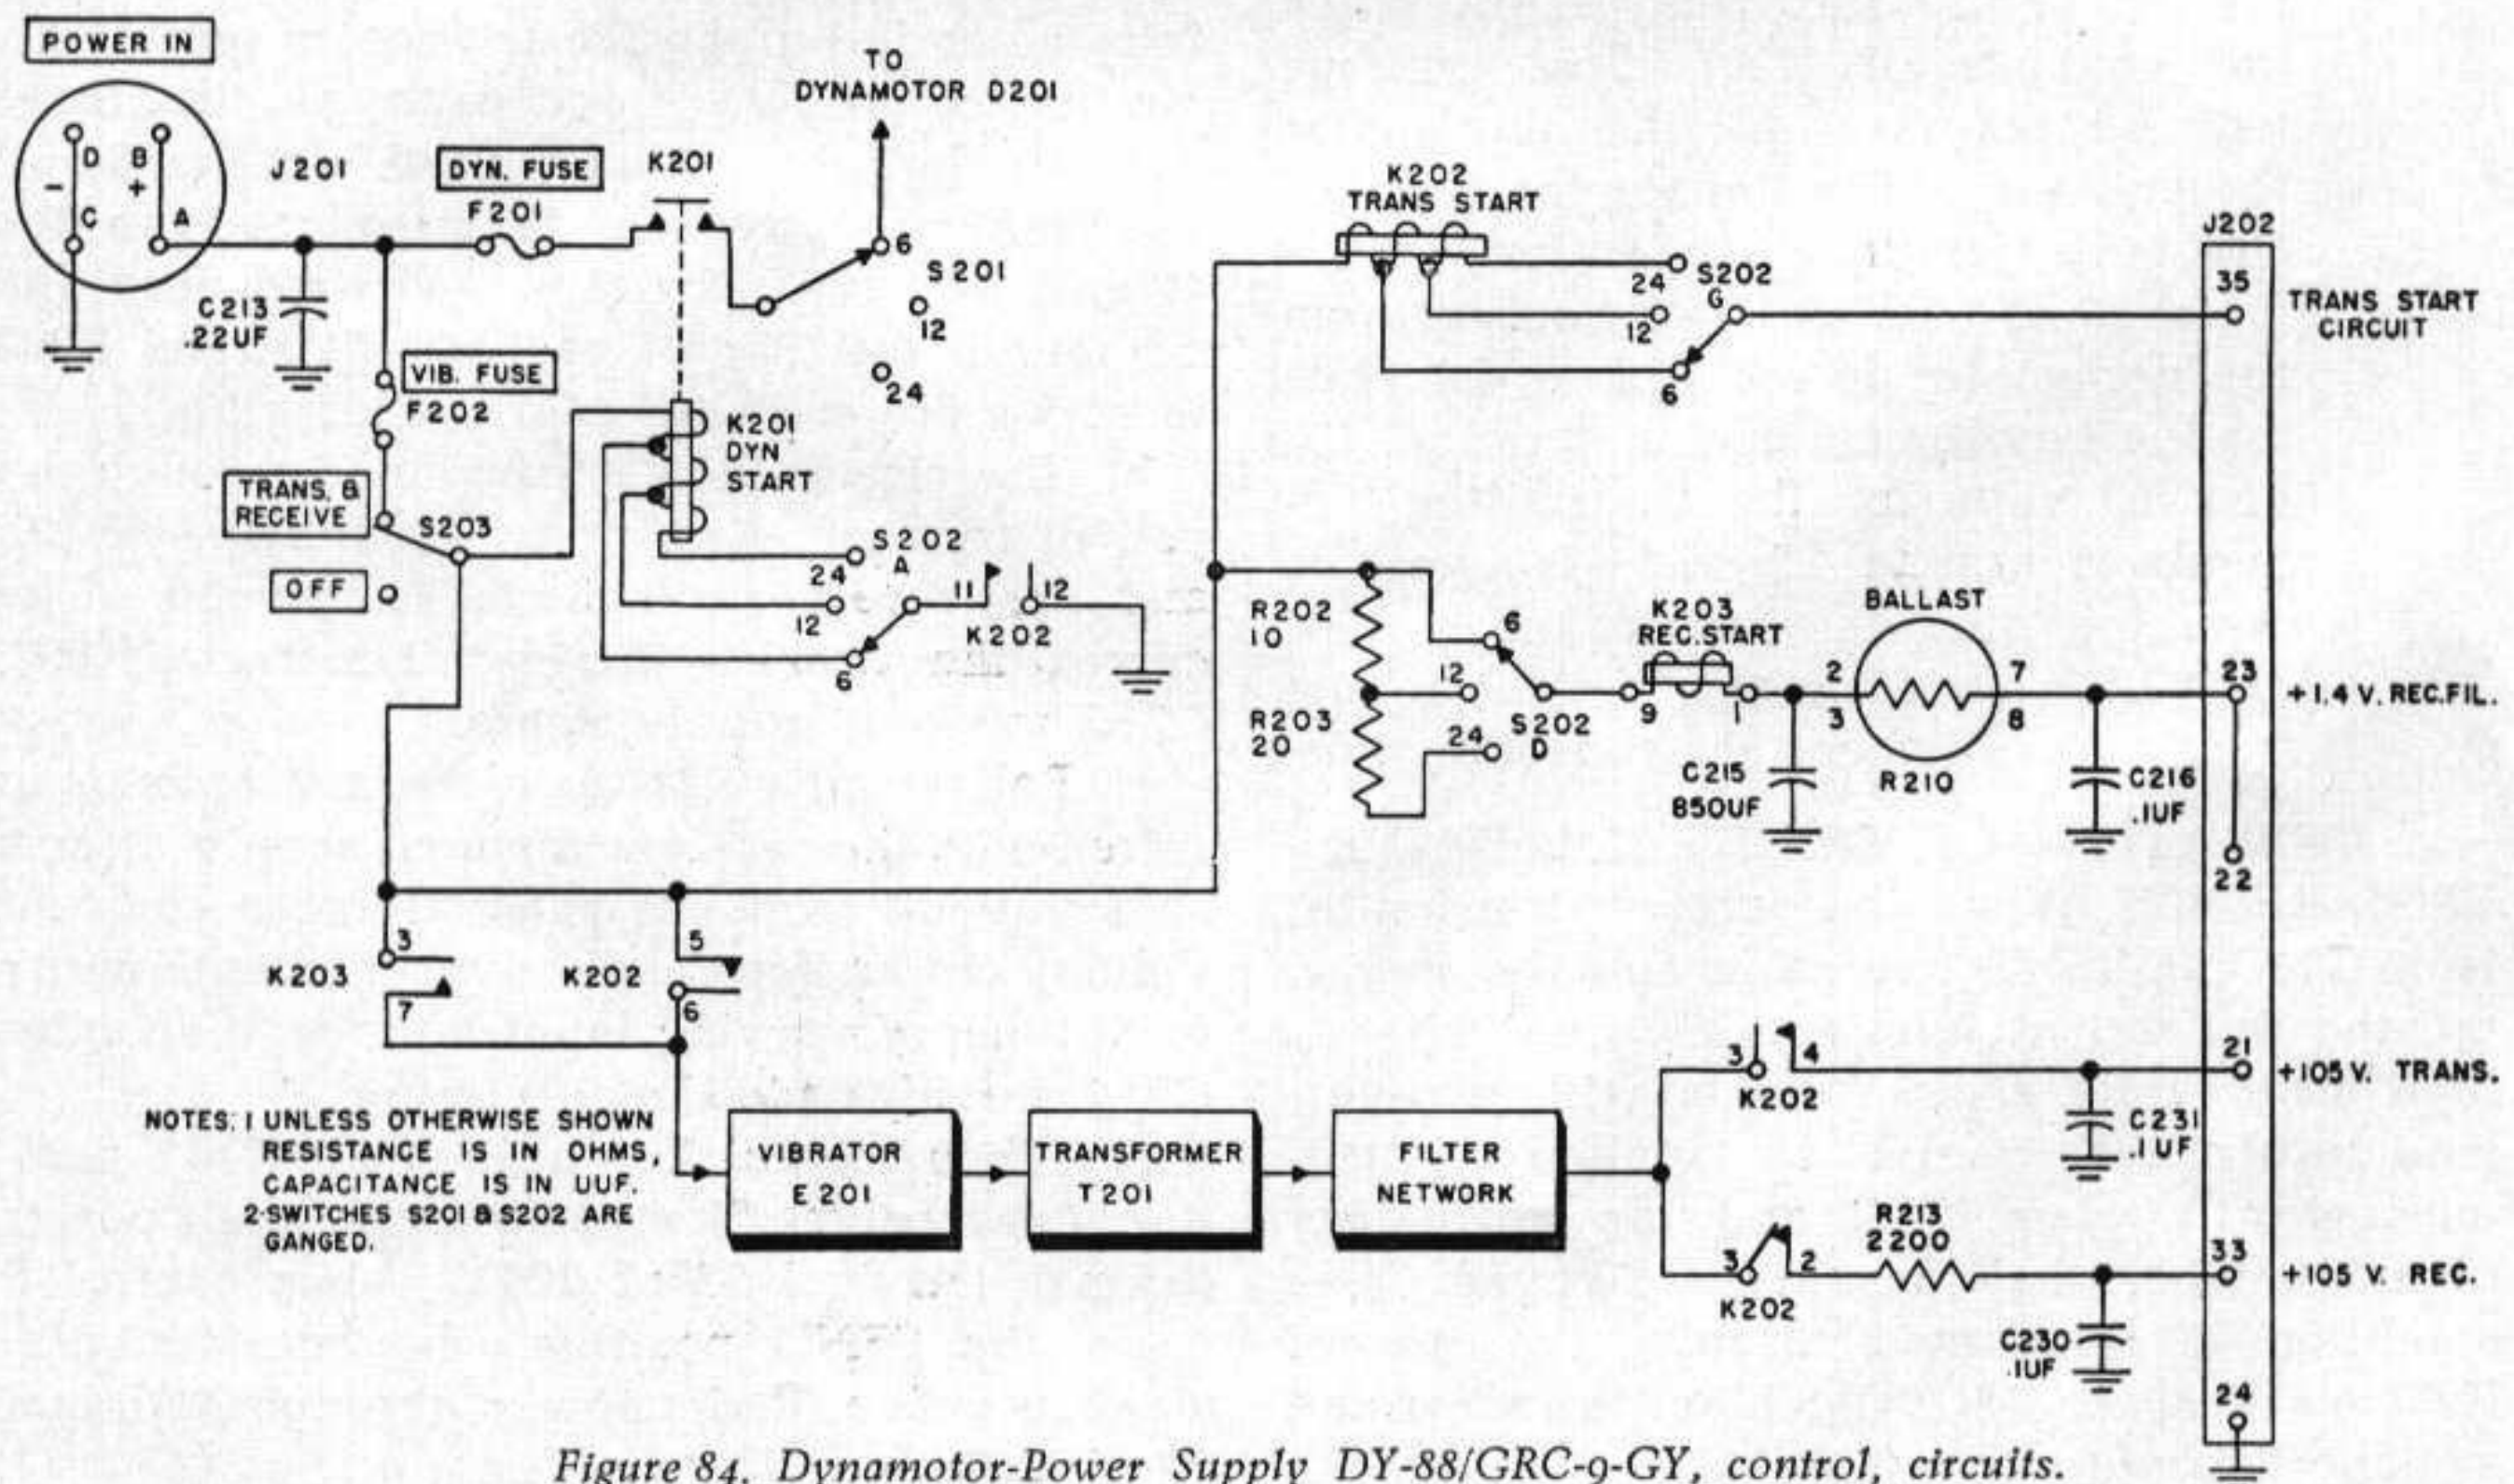
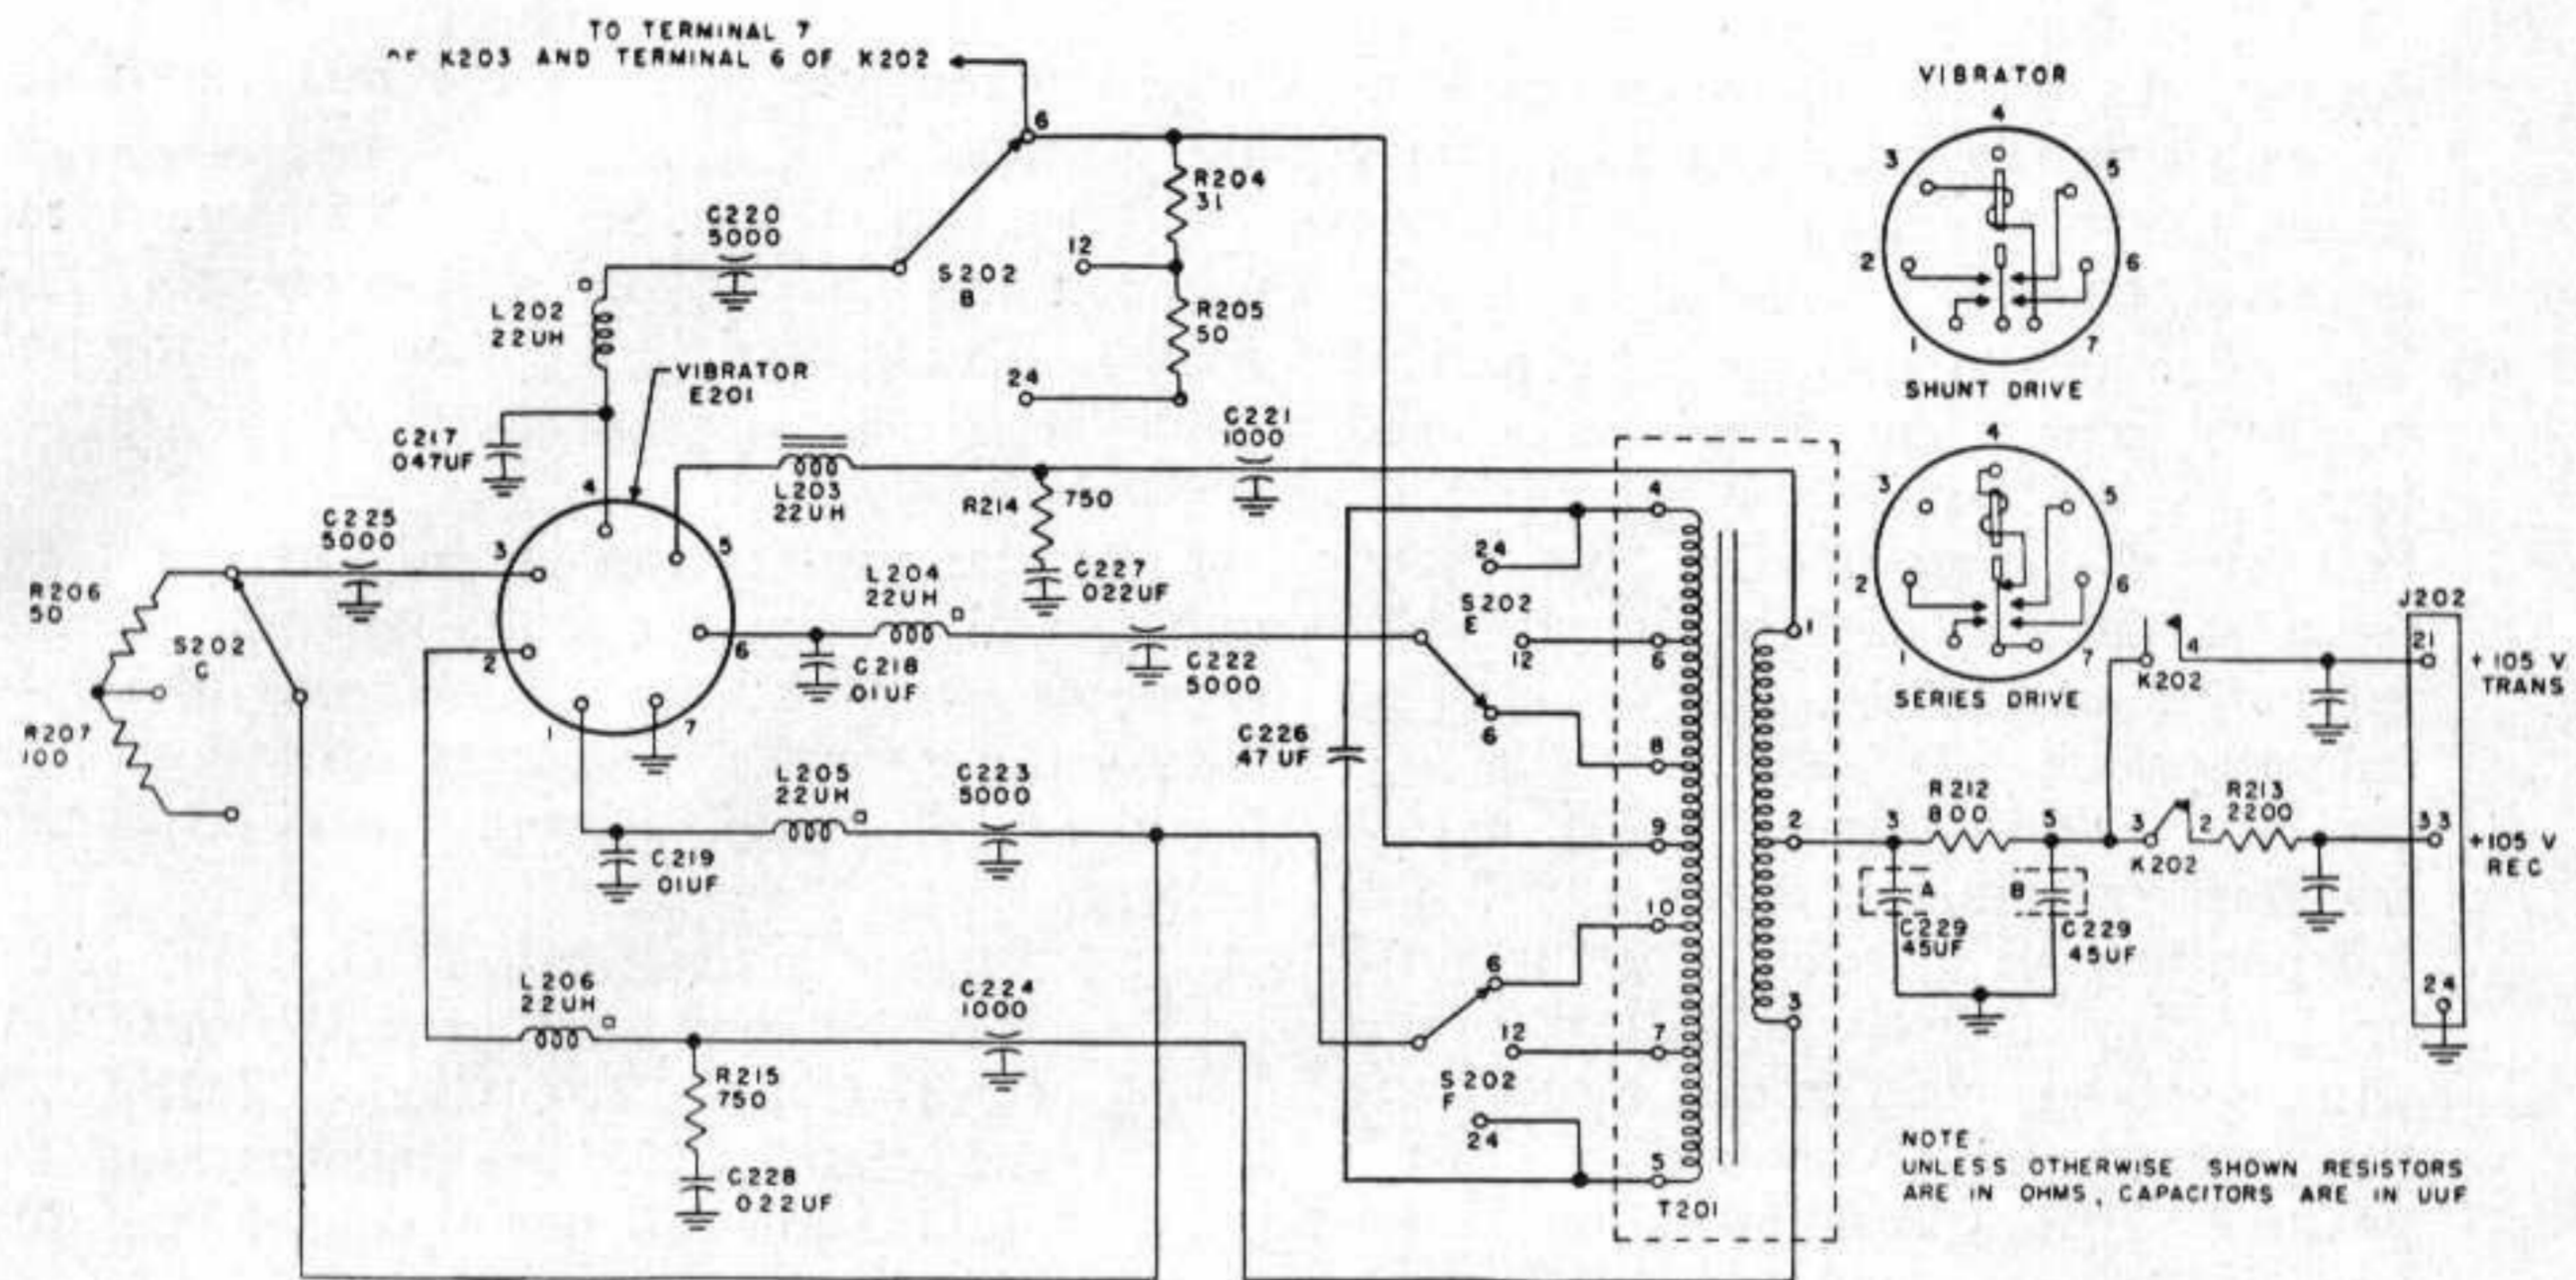

Figure 84. Dynamotor-Power Supply DY-88/GRC-9-GY, control, circuits.
Figure 85. Dynamotor-Power Supply DY-88/GRC-9-GY, vibrator circuits.
a. FUSES. The vehicular battery is connected to the + and — terminals of the dynamotor power supply across capacitor C213 (fig. 84). C213 is an r-f bypass capacitor which prevents the input cables from radiating r-f noise that would interfere with radio reception. DYN FUSE F201 protects the dynamotor circuits. This fuse must be changed each time the battery voltage is changed (par. 43). VIB Fuse F202 protects the vibrator circuits.
b. Switches. The voltage selector switches, S201 and S202, in the dynamotor power supply are ganged to one common shaft and perform the function of connecting the correct circuit components when a 6-, 12-, or 24-volt vehicular battery is used. There are several wafer sections of S202, numbered S202A to S202G (figs. 84 and 85). TRANS & RECEIVE-OFF switch S203 is a single-section rotary switch.
(fig. 84)
a. Synchronous vibrator E201 and transformer T201 (fig. 84) are used to supply 105 volts d-c at 17 ma to the receiver plate and screen circuits during stand-by periods, and
b. Receiver start relay K203 is energized when control E is at the SEND or STANDBY position (par. 107). Battery current passes through closed contacts 3 and 7 of K203, or 5 and 6 of K202, or both (fig. 84), to voltage selector switch S202B and to the center tap (terminal 9) of transformer T201 (fig. 85). S202B introduces the proper resistance into the circuit to permit the circuit to operate from each of the three different battery voltages used.
- (1) The series-driven vibrator coil, connected from pin 4 to the stationary contact, and the movable arm, connected to pin 7, constitute an ordinary buzzer similar to the doorbell type (fig. 85). However, the vibrating arm or reed moves back and forth many times more rapidly than in the familiar doorbell buzzer. The current through the vibrator coil attracts the reed, breaking the circuit to ground. This de-energizes the coil and the reed swings back in the opposite direction, completing the circuit to ground again. This action continues, causing the reed
a. TRANSMITTER START RELAY. When control **E** is turned to the SEND position, transmitter start relay K202 is energized and contacts 11 and 12 close to apply power to dynamotor start relay K201 (fig. 84). At the same time, contacts 5 and 6 and 3 and 4 of K202 close, while contacts 2 and 3 open (par. 110). Voltage selector switch S202G permits the relay to operate from a 6-, 12-, or 24-volt battery.
a. Closed contacts 5 and 6 of K202 apply battery power to the vibrator portion of the dynamotor power supply (fig. 84). The 105-volt output is applied through closed contacts 3 and 4 of K202 (contacts 2 and 3 now are open), terminal 21 of J202, and closed contacts 18 and 19 of keying relay K101 to the receiver (fig. 65).